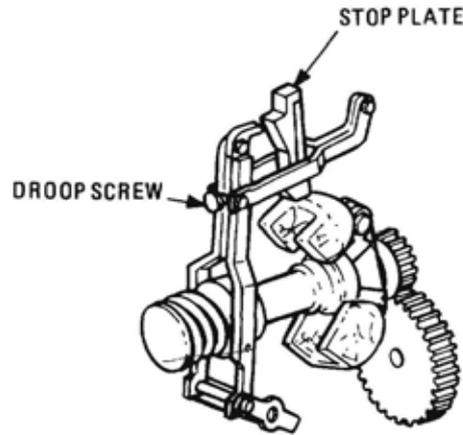

Figure 28 Governor, Fulcrum Lever and Stop Plate
44. Movement of the operating lever will rotate the spring hub and the fulcrum lever bracket, thereby causing the fulcrum lever to rotate on its pivot. The upper end of the fulcrum lever is connected through a linkage to the control rack. This, in turn, rotates the plungers to vary the amount of fuel delivered. If the accelerator is held in the maximum rev/min position, the engine speed will continue to increase until the governor weights move outward enough to force the sliding sleeve and fulcrum lever rearward, away from the injection pump (Figure 28). The engine is then at governed maximum rev/min under no load.